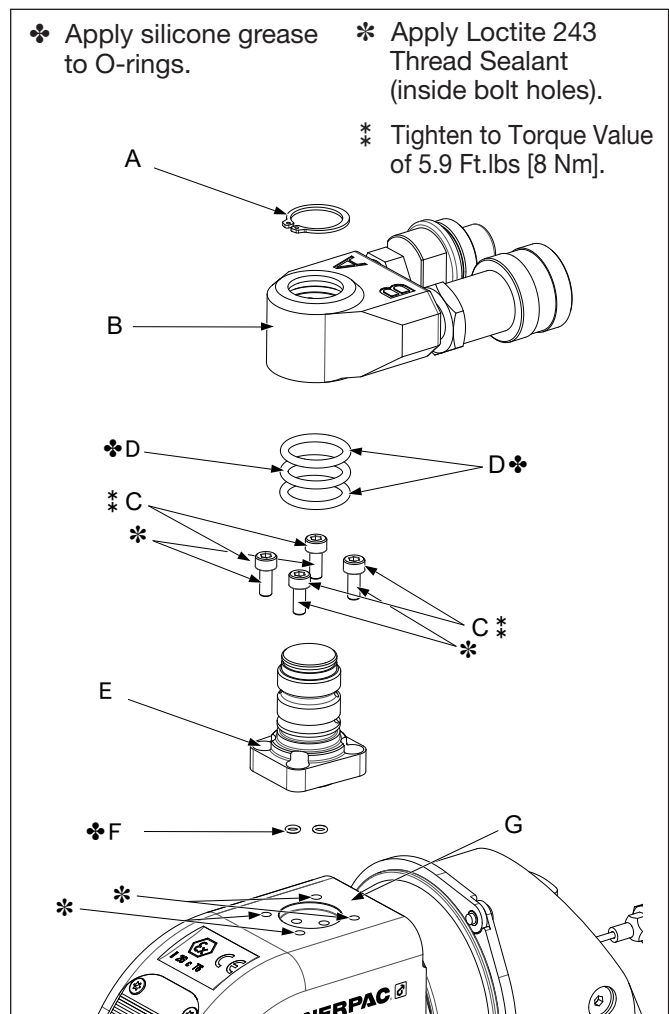
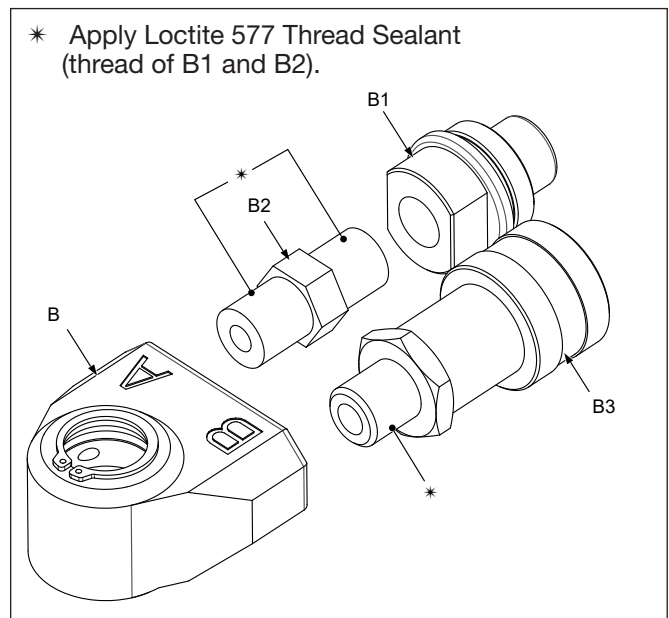

Figure 11: Removing Swivel Post and Swivel Assembly
Figure 12: Removing Swivel Post and Swivel Assembly
7.2.1 Hydraulic Swivel Assembly (Fig.11 + Fig.12)
1. Apply Loctite 577 sealant to threads on female coupling (B3) and adapter (B2). See Fig. 12 for locations.
1. Apply a small amount of Loctite 243 thread sealant to the threaded mounting holes in the wrench housing. See Fig. 11 for locations.
2. Install two new O-rings (F) into the ports on the base of the swivel post (E).
3. Place the swivel post (E) onto the wrench (G), making sure that hydraulic ports are aligned. Be careful that O-rings (F) do not drop out or become pinched or cut.
4. • Install the degreased socket head capscrews (D) and tighten to 3.7 Ft.lbs [5.1 Nm].